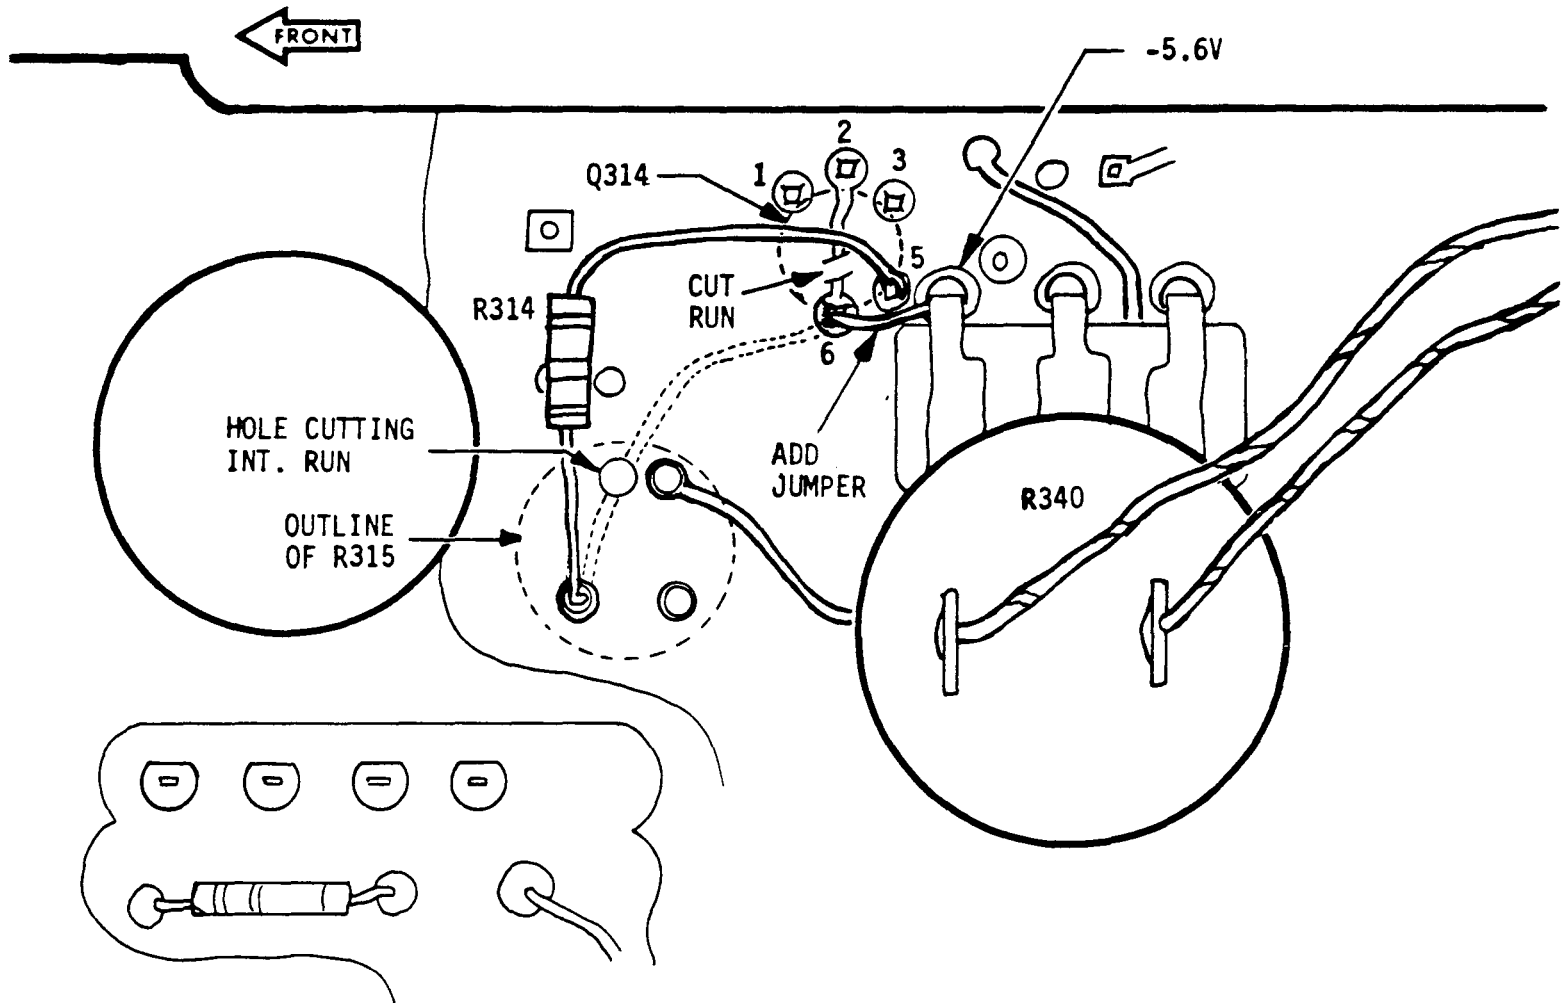

Fig. 3. Partial View - Back (Solder Side) of Input Circuit Board.
- Make the following changes on the back (solder side) of the Input circuit board. Refer to Fig. 3.**